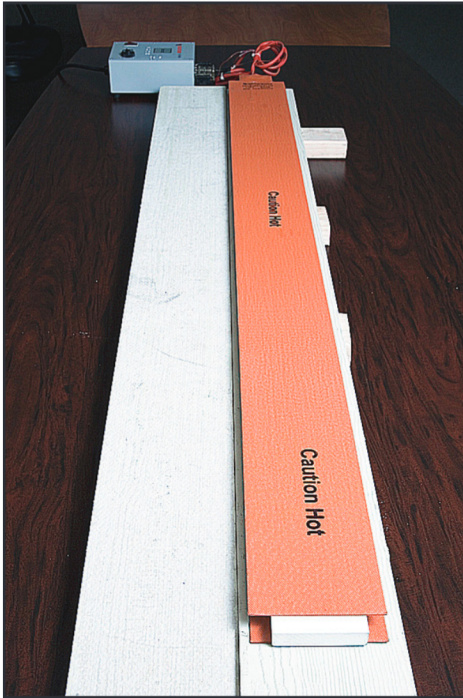

Figure 6
5. Lay the second blanket on top of the material. (Fig. 6)